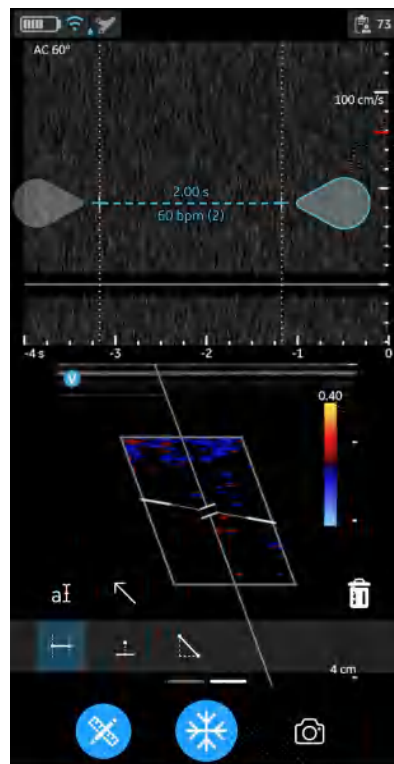

Figure 5-32. Time interval - PW-mode
4. The system displays the time measurement and the corresponding calculated heart rate. The number of beats used for the heart rate calculation is listed with the calculated heart rate. Example 60 bpm (2) refer Figure 5-32